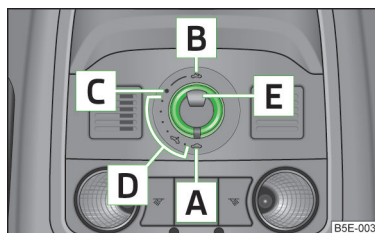

Fig. 25
- If the battery has been disconnected and reconnected, it is possible that the sliding/tilting roof does not operate correctly. Next, move the rotary switch into position **A** » Fig. 25 on page 50, pull the recess firmly downwards and hold forwards firmly. The sliding/tilting roof opens and closes again after around 10 seconds. Do not release the control dial until it has done so.
- Turn the switch to position **C** » Fig. 25.